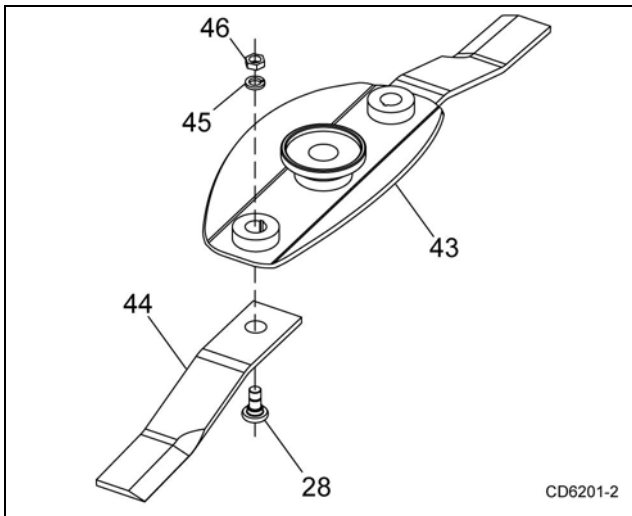

Figure 14. Blade Removal
2. To make crossbar removal easier, remove blades. See Figure 14.